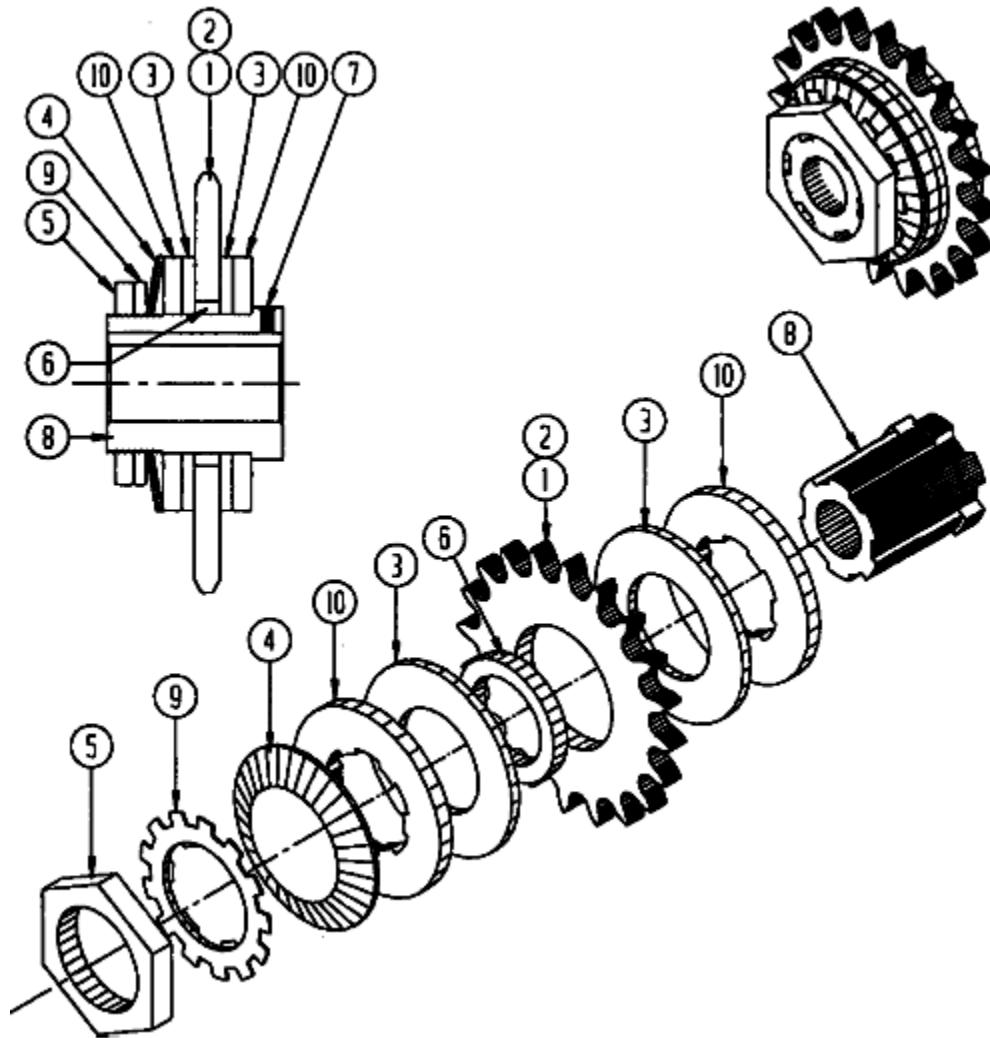

Figure 6
Chain drives have fixed centers and are not equipped with either take-ups or adjusting features. (Chain sag is permissible within the limits shown on fig. 6, page 24).
- Tighten hex nut to a "finger tight" position (see fig. 6, page 24)